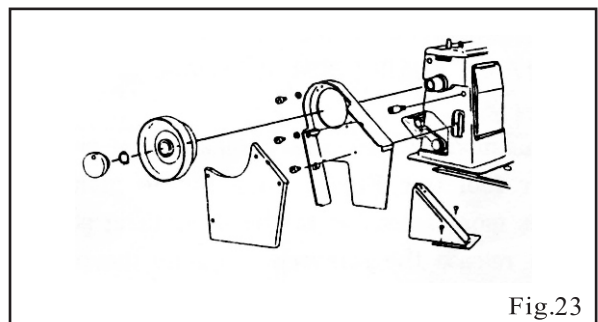

Fig.23
19. ASSEMBLAGE OF BELT COVER (Fig.23)